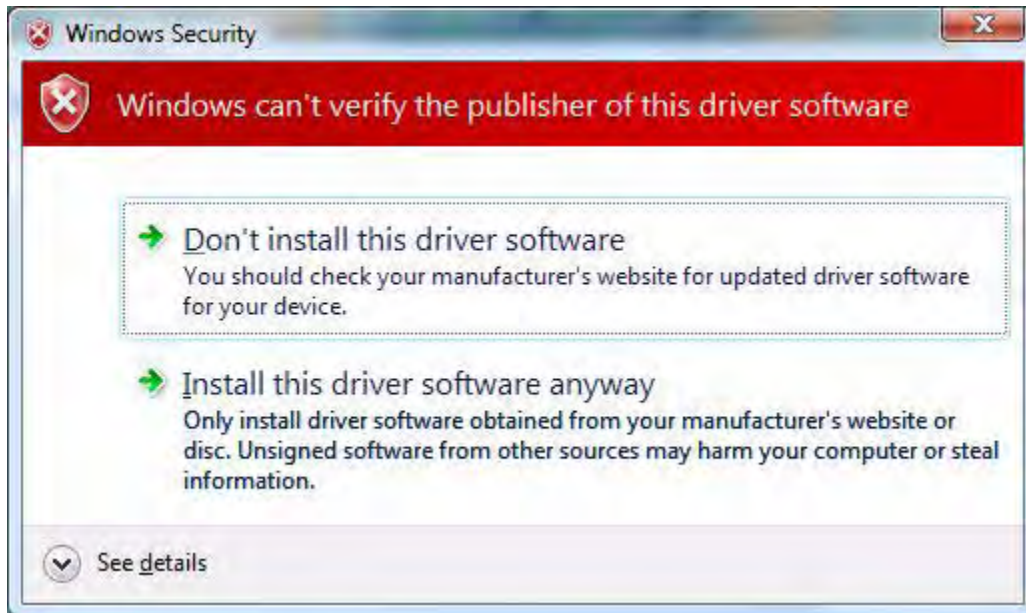

Figure 7. Can't Verify Publisher Dialog, Windows Vista
4. When Windows prompts you whether to install or not install, as shown in Figure 7, click **Install this driver software anyway** and wait until the installation is completed (Windows may prompt you more than once).